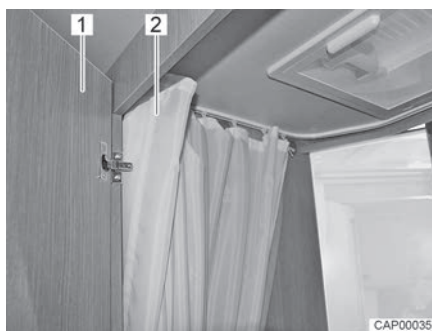

Fig. 101 Toilet compartment with shower
- For showering, close the door (Fig. 101,1) and completely close the shower curtain (Fig. 101,2) so that all walls are protected.